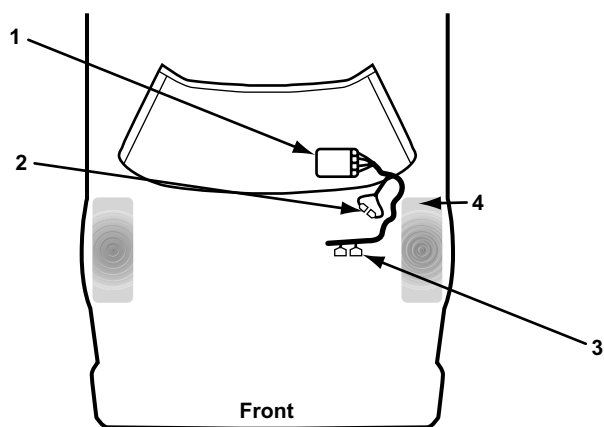

Figure 15-40 1987-94 SPI connectors
- “1987–94 SPI connectors” on page 203 (Figure 15-40)